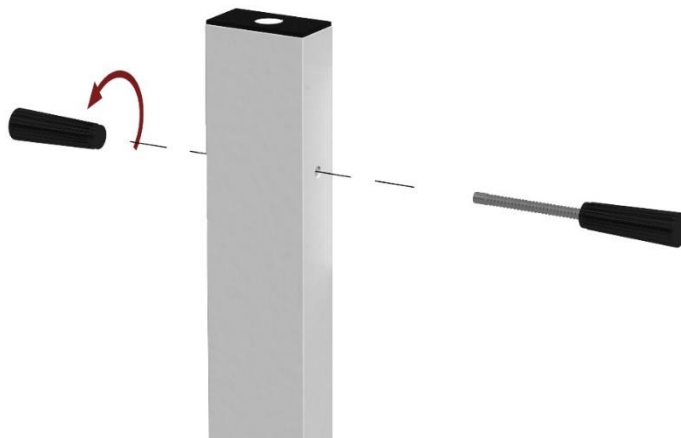

fig. 15
- ✓ Insert the two handles provided into the hole as in fig. 15